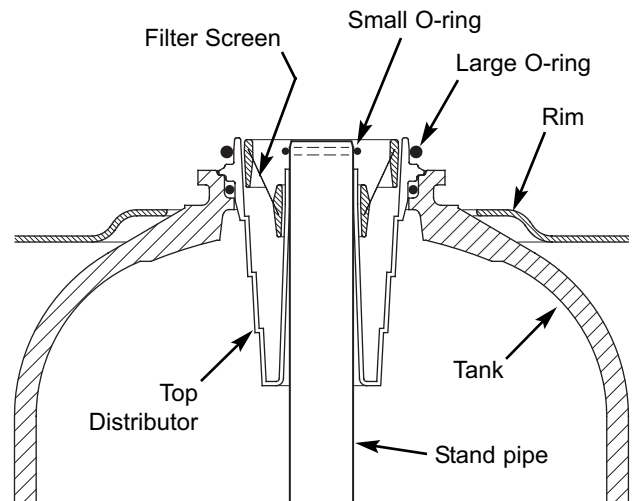

FIG. 26
7. Remove the small o-ring (See Figure 26).
9. Use water to flush the tank top opening. Then, replace the top distributor and o-ring. Be sure to locate o-ring seal correctly (See Figure 26).